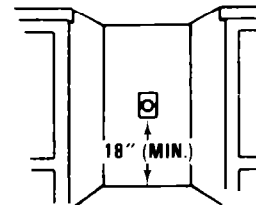

FIGURE 9
7. A grounded receptacle should be located 18" (min.) from the floor and in the center of the opening. *See Figure 9.*